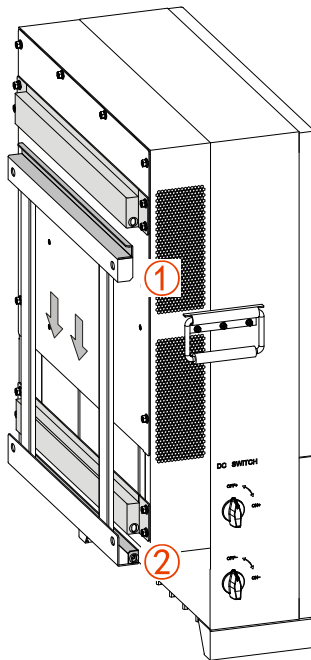

Figure3-7 Fasten the inverter to the installation holder
- Step 5 As shown in Figure3-7, uplift the inverter and insert the holes in the back of the inverter into the bulge of installation holder (total two positions) slowly. It can't release the inverter until it has been fastened firmly.